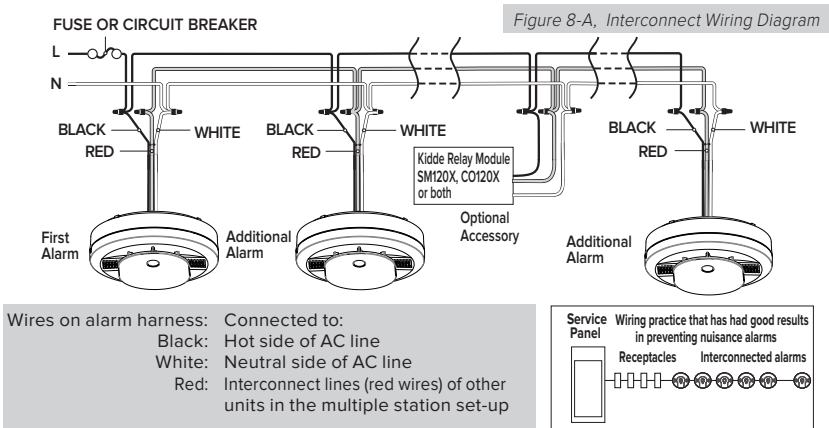

Figure 8-B
- Figure 8-A illustrates interconnection wiring. Improper connection will result in damage to the alarm, failure to operate, or a shock hazard.
- For best results to minimize nuisance alarms, interconnected alarms should be on a dedicated line. If not on a dedicated line, it is suggested that the smoke alarms share a lighting load circuit that does not have a dimmer associated with it. If receptacles must be placed on the same line it is suggested that they be placed ahead of the smoke alarms (see Figure 8-B). This will prevent large voltage drops from occurring between the first and last alarm in the circuit.